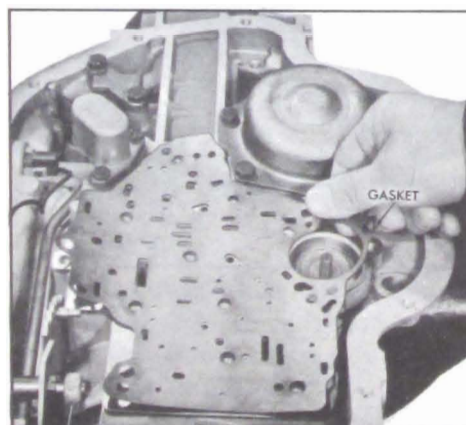

Figure 5-742
1. Install control valve to spacer gasket. See Figure 5-742.